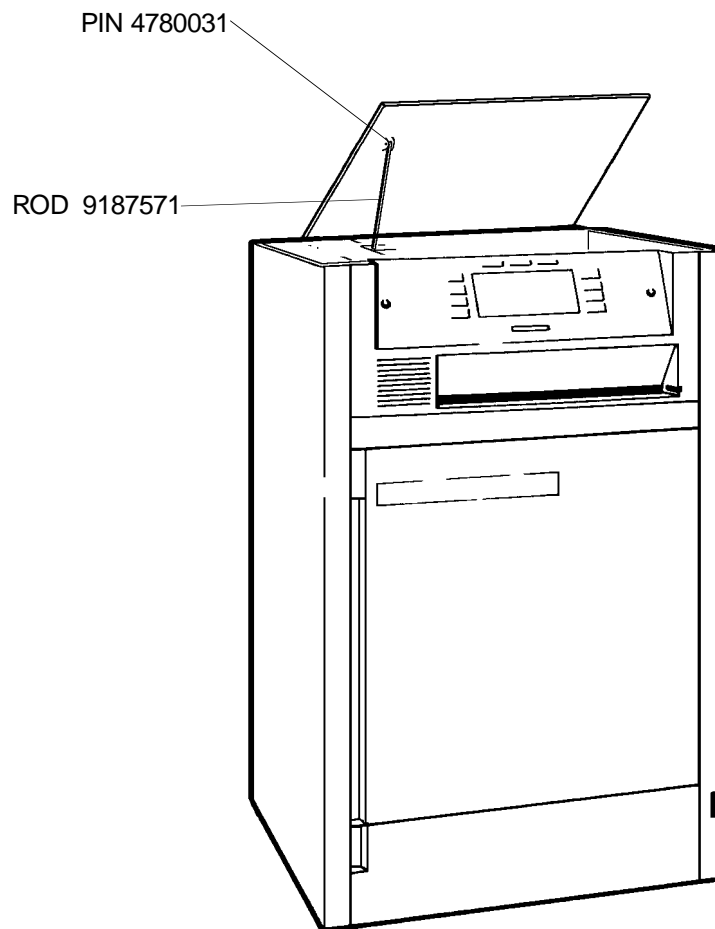

figure 8
17. Remove indicated part in figure 8. Install new parts.